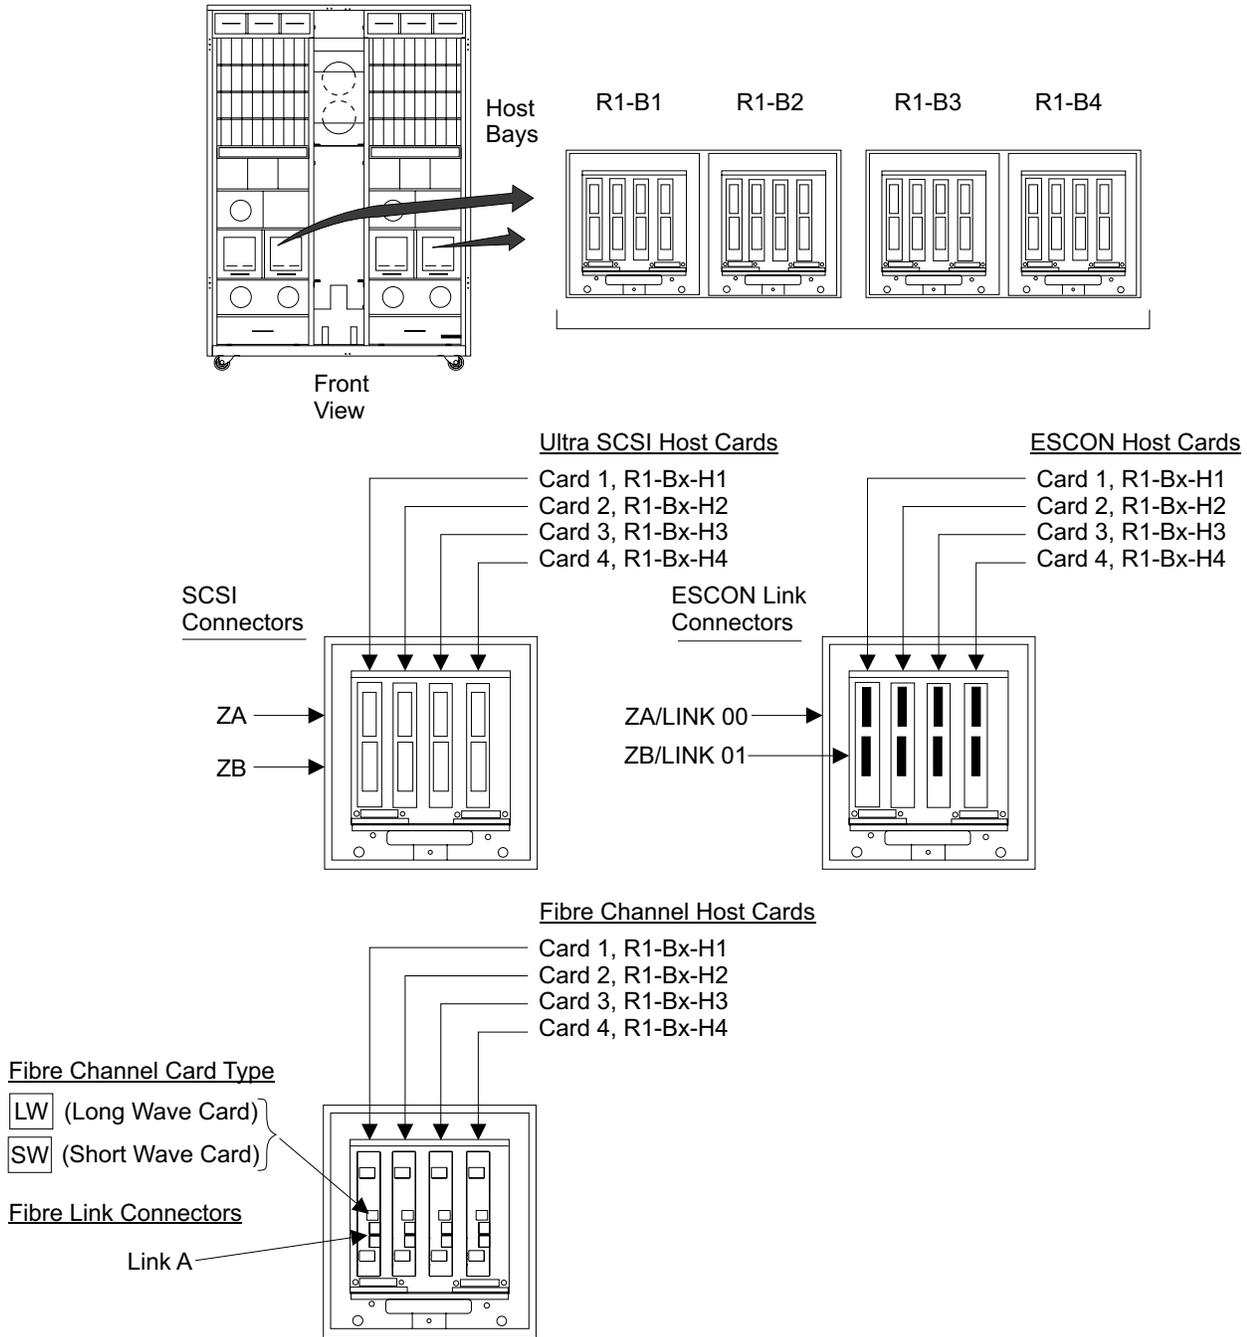

Figure 334. Host Bay Card Connectors (S008024r)
- ___ 13. Connect the host cables to the host system. The cables are supplied with the host adapter Feature Code (FC). Refer to "Connecting the 2105 Model Exx/Fxx to the Host System" on page 257.
- ___ 14. Install the host cables to the host card connectors indicated by the Configuration Worksheets. See Figure 334 on page 342 for card and connector locations.